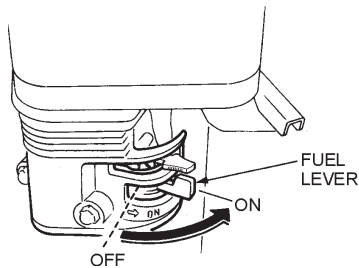

Figure 19. Fuel Valve Lever
2. Connect a hose (water source) to the water input port of the saw (see page 50, item 2, **Water System Assembly**), and test for adequate flood water [ 4 to 5 gallons per minute (15 to 19 LT/min)], and/or misting water [steady geometric aerosol spray at 40 psi].
3. Place the **fuel valve lever** (Figure 19) to the "ON" position.
- Place the fuel valve lever (Figure 19) to the "OFF" position.